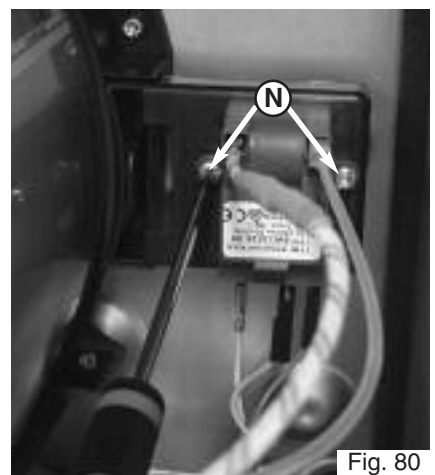

Fig. 80
4. Remove the two screws **N** from the ignitor and remove (Fig. 80);